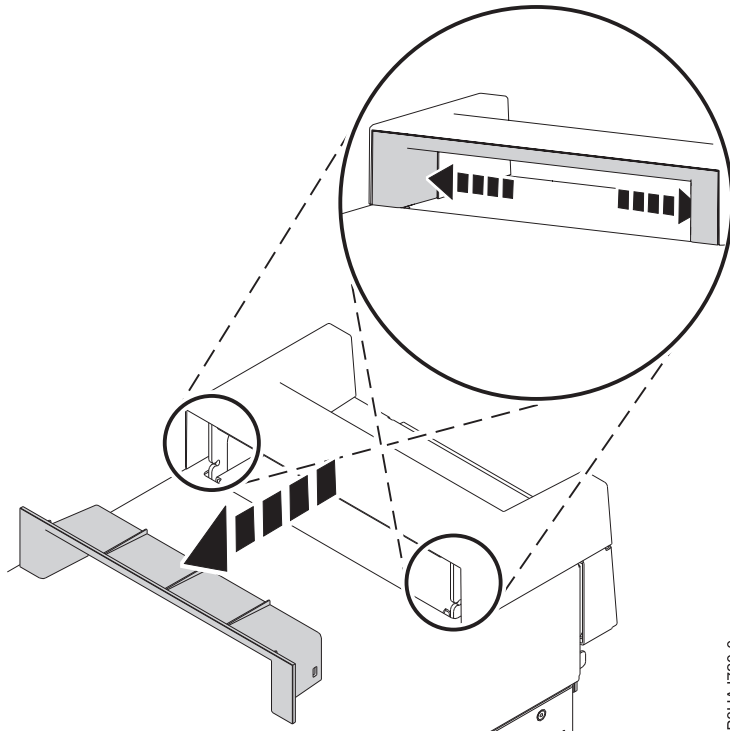

Figure 10. Removing the piece within the handle cover on an 8286-41A stand-alone system
1. Remove the plastic piece within the interior of the handle cover by pushing the latches on the inside firmly and sliding it out. See Figure 10 on page 30.